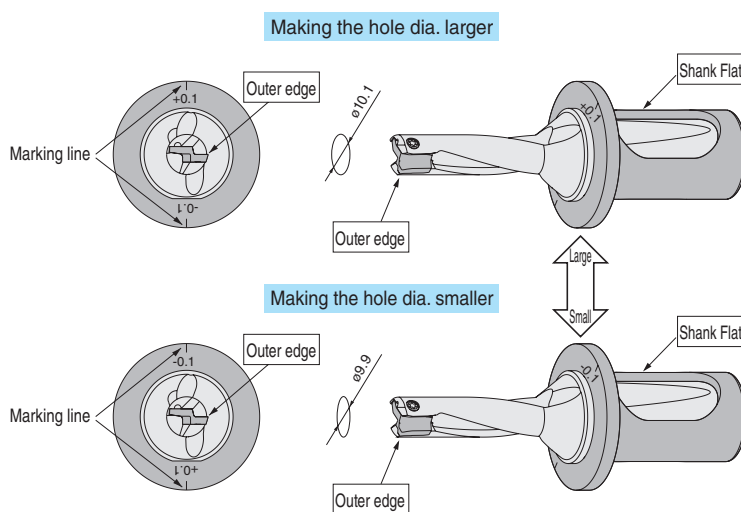

Fig. 1 Diameter Adjustment Method (e.g.) ø10 Drill
- (1) Set the outer edge horizontally with 90° to making line on the sleeve. (Fig. 1)
- (2) When making the hole diameter larger, align the +0.1 mark on the sleeve with the flat on the drill shank.
To adjust to smaller diameter, align the -0.1 mark on the sleeve with the flat on the drill shank. (Fig. 1)